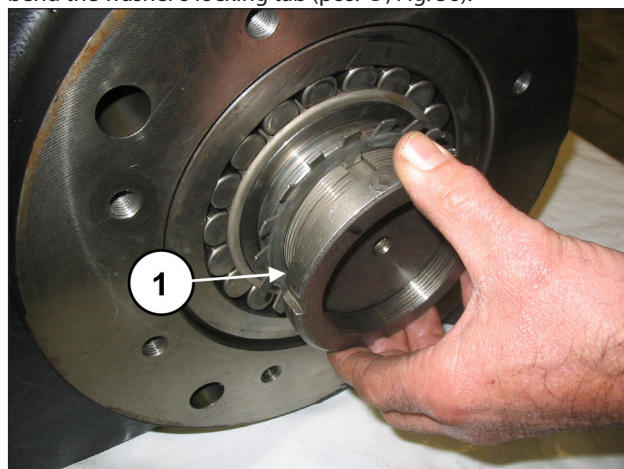
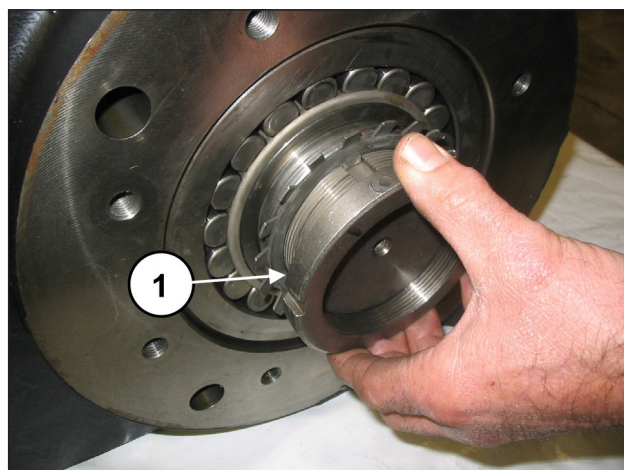
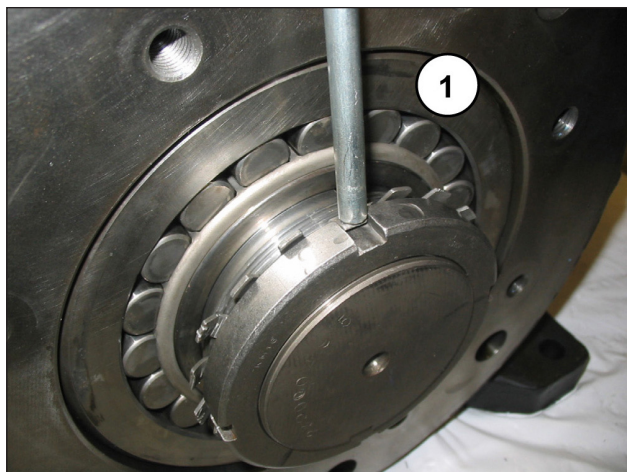

Fig. 54
Fig. 55
Fig. 56
Unscrew the ring nut, insert the safety washer (pos. ①, Fig. 54) and fully screw on the ring nut (pos. ①, Fig. 55), after which bend the washer's locking tab (pos. ①, Fig. 56).